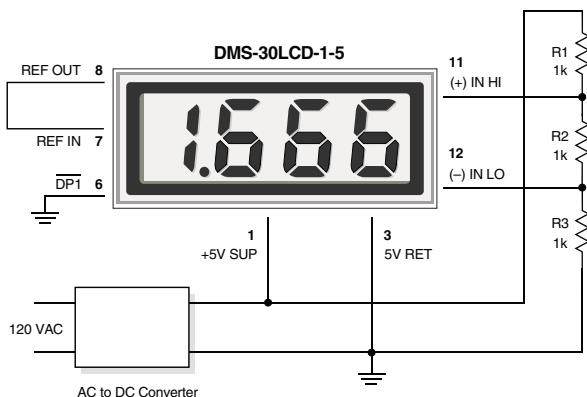

Figure 3. Differential Input Configuration (5V-Powered Models)
**2. Differential Input Configurations:** Differential measurements can be made with either 5V-powered or 9V-powered meters. Figure 3, though not a practical real-world application, uses a voltage divider to demonstrate the concept of a differential input signal. Be careful not to exceed the  $\pm 2V$  common mode voltage limitation for 5V-powered meters.